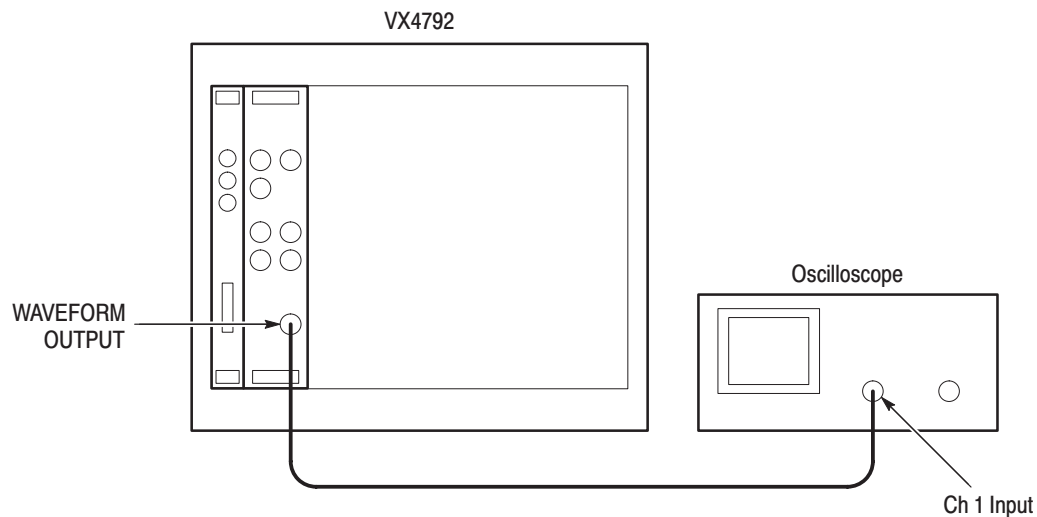

Figure F-5: Burst Mode Initial Test Setup
1. *Install test setup and set test equipment controls (see Figure F-5):*